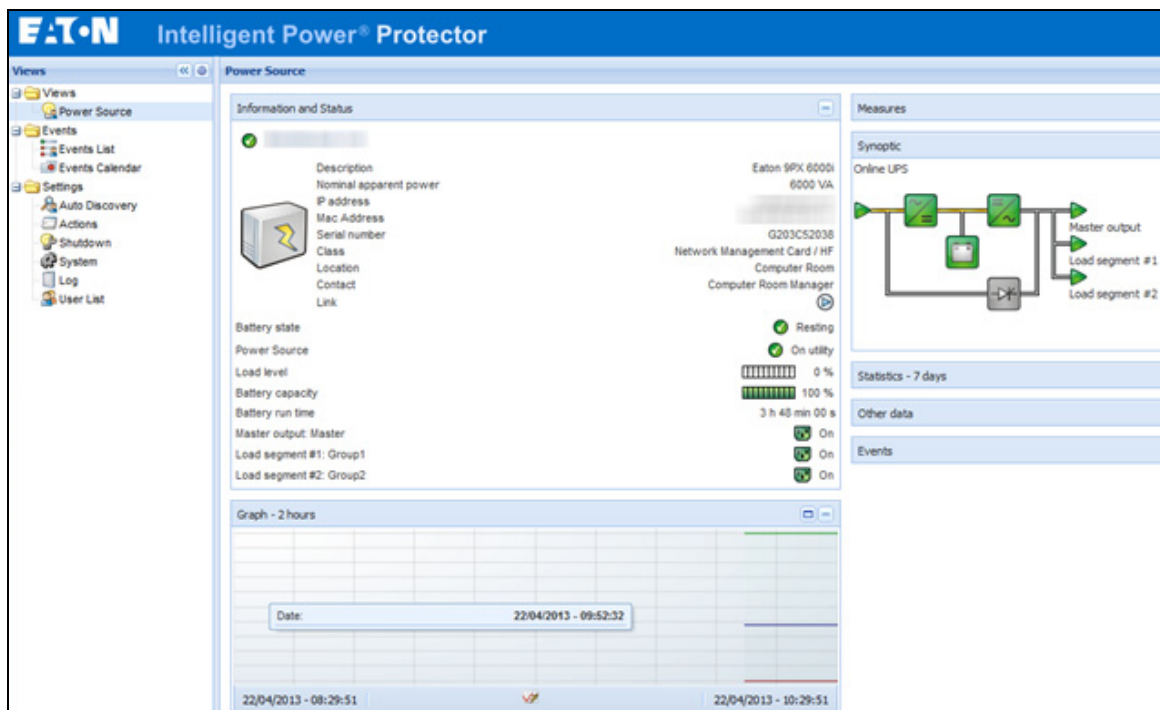

Figure 39. Power Source View
2. Click the **Views > Power Source** menu item. The Power Source window displays (see Figure 39):